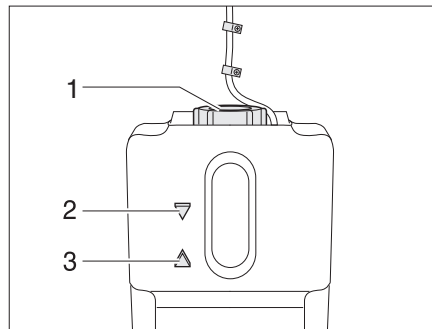

Fig. 363 Compensator reservoir hot-water heater
- Check if the fluid level is between the marks "MIN" (Fig. 363,3) and "MAX" (Fig. 363,2) on the compensator reservoir (Fig. 363).
- Open the rotary lid (Fig. 363,1) on the compensator reservoir.